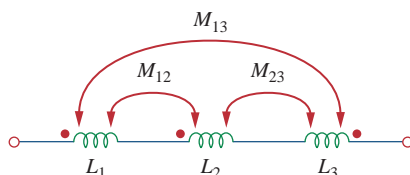

Figure 13.73
- 13.2** Using Fig. 13.73, design a problem to help other students better understand mutual inductance.